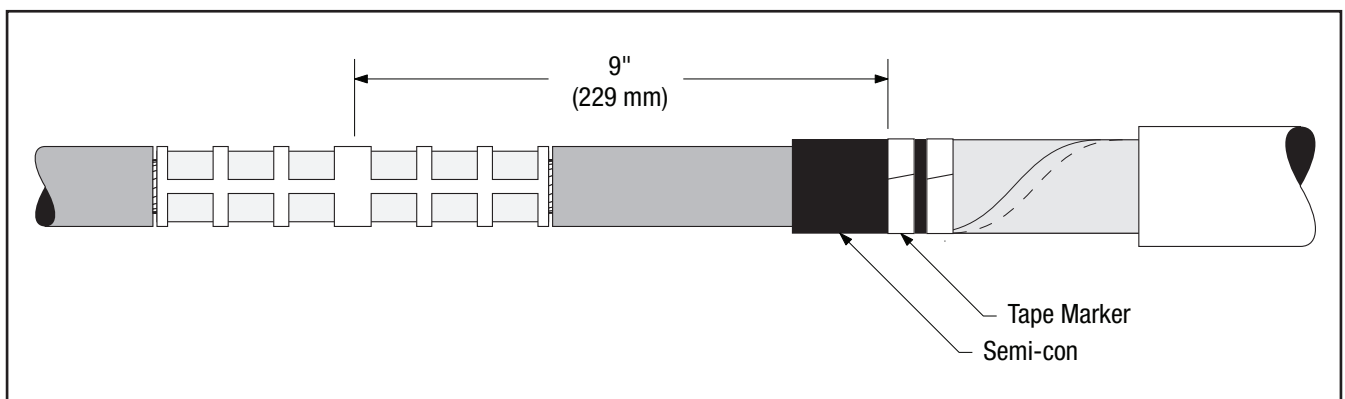

Figure 10
- 4.1 Apply a tape marker to semi-con insulation shield on cable which does not contain splice. Measure 9" (229 mm) from center of connector (*Figure 10*).